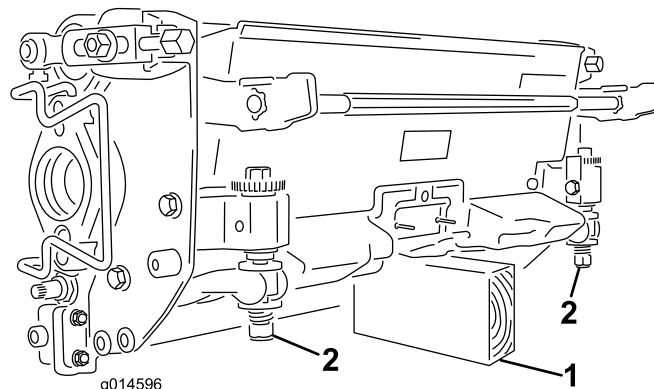

Figure 10
**Important:** Whenever the cutting unit has to be tipped to expose bedknife/reel, prop up rear of cutting unit to make sure nuts on back end of bedbar adjusting screws are not resting on work surface (Figure 10).